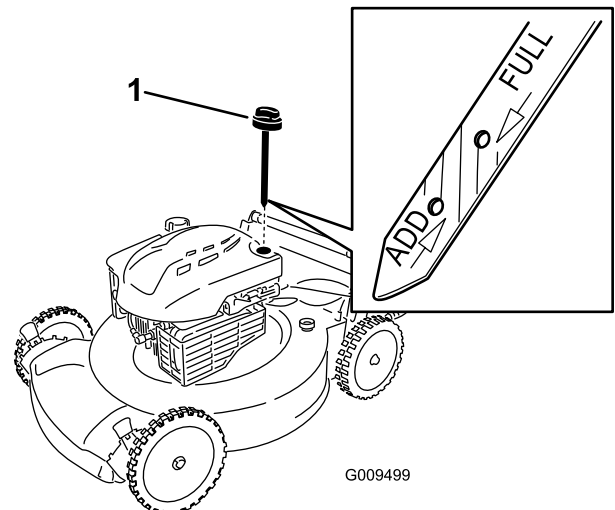

Figure 5
1. Remove the dipstick (Figure 5).
2. **Slowly** pour oil into the oil fill tube until the oil level reaches the **Full** line on the dipstick (Figure 5). **Do not overfill.** (Max. fill: 20 oz. (0.59 l), type: SAE 30